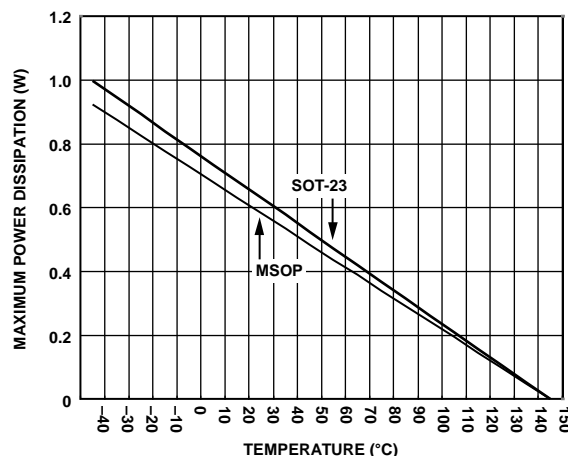

Figure 3. Plot of Maximum Power Dissipation vs. Temperature
2Values relate to package being used on a standard 2-layer PCB. Reference Figure 3 for a plot of maximum power dissipation versus ambient temperature (TA).